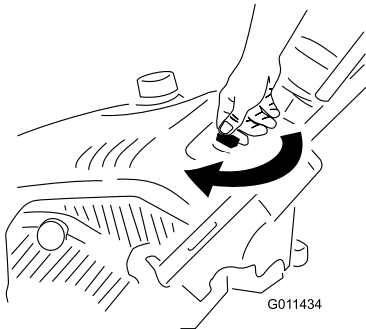

Figure 13
- 1. Turn the ignition key clockwise to the On position (Figure 13).